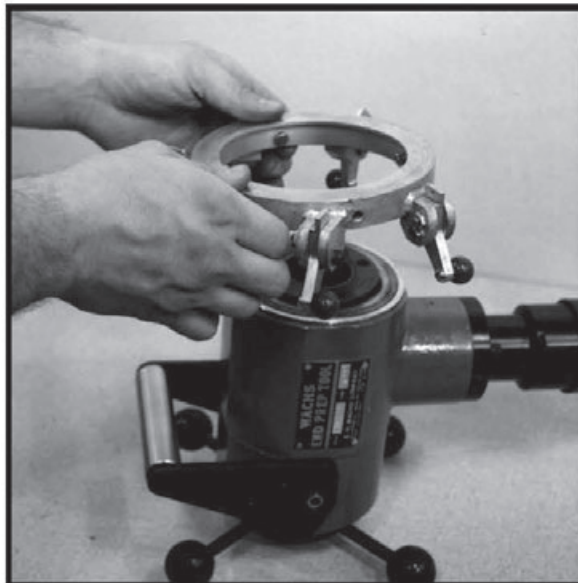

Figure 3-7.
3. Install the Trip Collar assembly by tightening the six locking set screws (Figure 3-7).